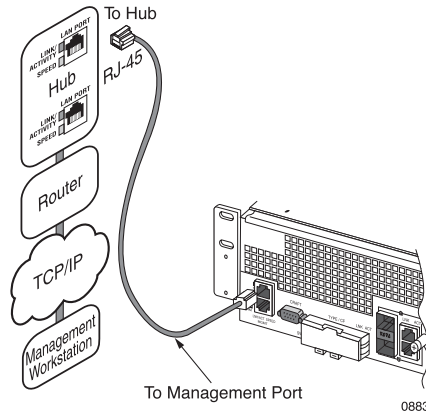
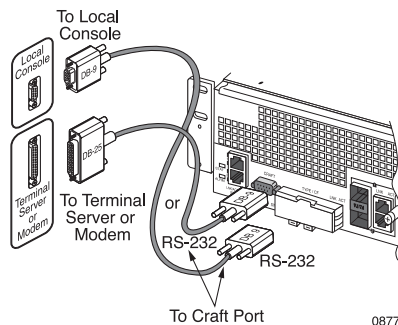

Figure 11 Ground Cable Connection
Figure 12 Connections for a Local or Remote Console
2. Connect and route the management access cables, depending on the type of management access you have selected, and the cables for the native ports; see Figure 11 for connecting a management workstation and Figure 12 for connecting a local or remote console: